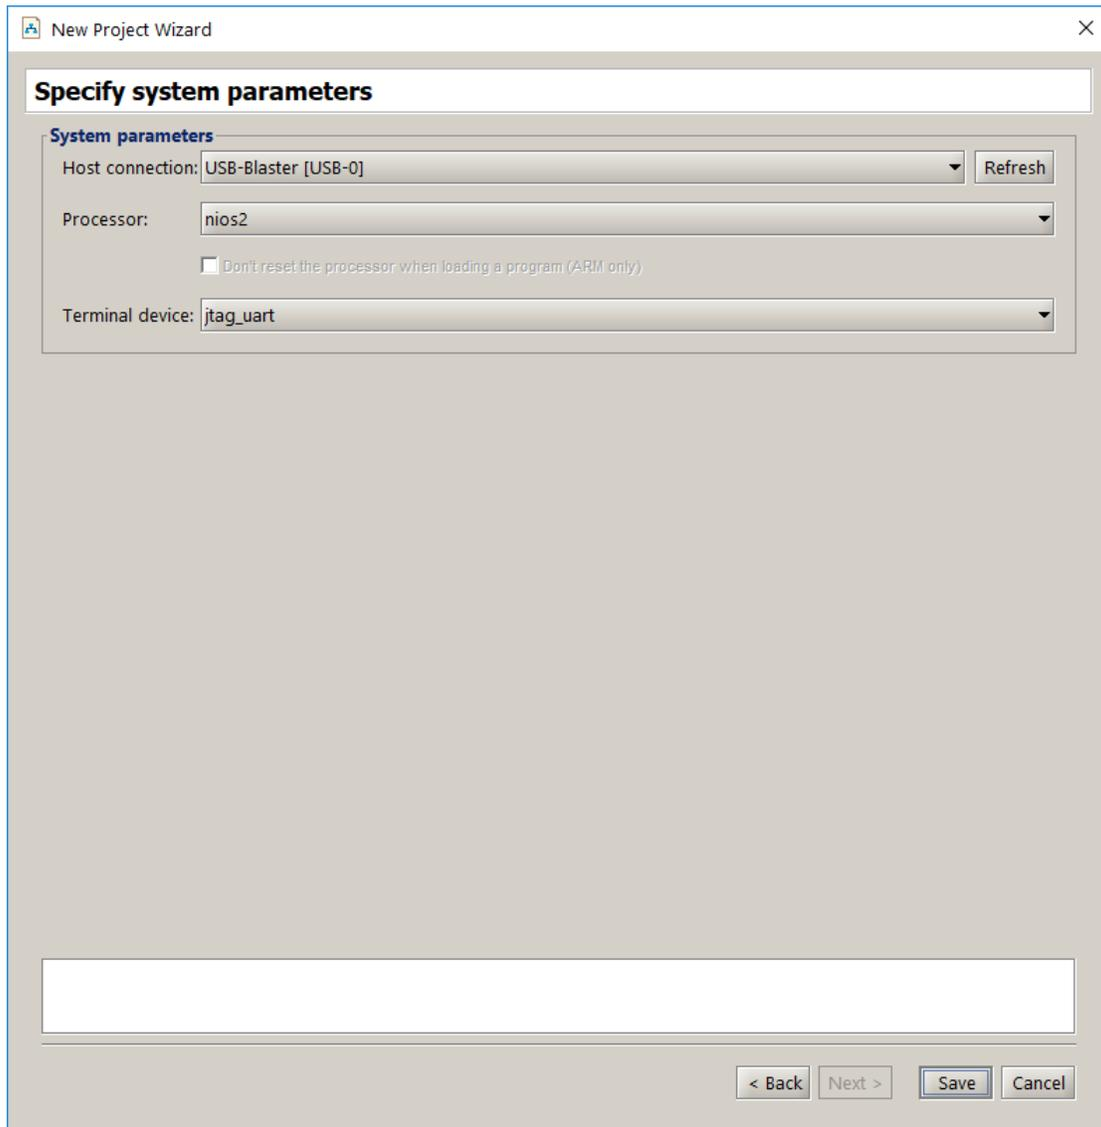

Figure 24. Check physical connection between the host computer and the DE2-115 board.
- In the window in Figure 24, if the physical connection exists between the host computer and your DE2-115 board you should see **USB-Blaster [USB-0]** under the Host Connection drop-down list. Otherwise, you should check the connection and make sure that the USB-Blaster driver is correctly installed. Then click **Save**.